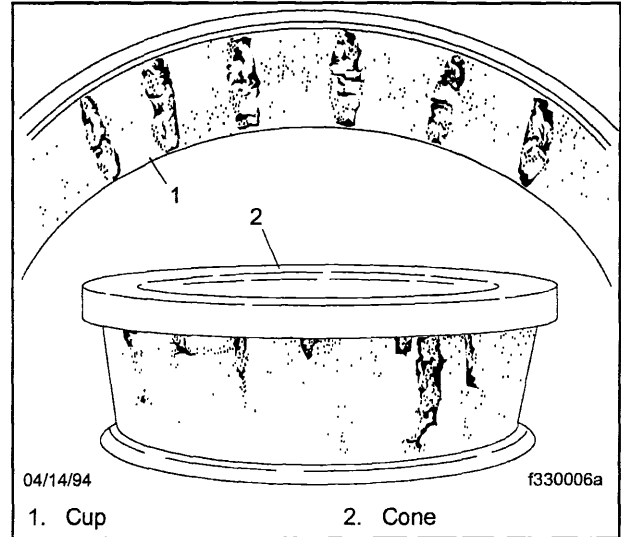

Fig. 6, Spalling (Flaking) of Wheel Bearing Assembly
- 1.3 Remove all the old grease or oil from the surfaces of the wheel bearing cups. Inspect the wheel bearing cups for cracks, wear, spalling, or flaking. See **Fig. 6**. Replace the cups if damaged in any way. For instructions, see **Group 35** in the applicable vehicle workshop manual.
- Spalling (flaking) of the bearing cup, roller, or cone surfaces (see Fig. 6);